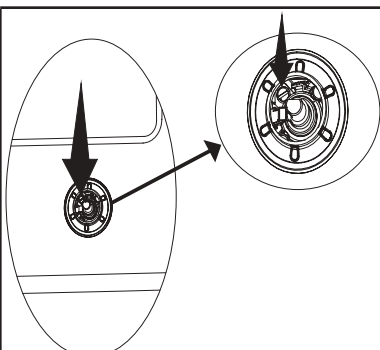

Figure 5
2. Tighten/loosen the gas setting screw shown in figure 5 with the help of a screwdriver of the proper size. (See figure 6) This enables the flame in the low position to increase or decrease. Adjust the proper gas setting so that the flame length is at least 4 mm.